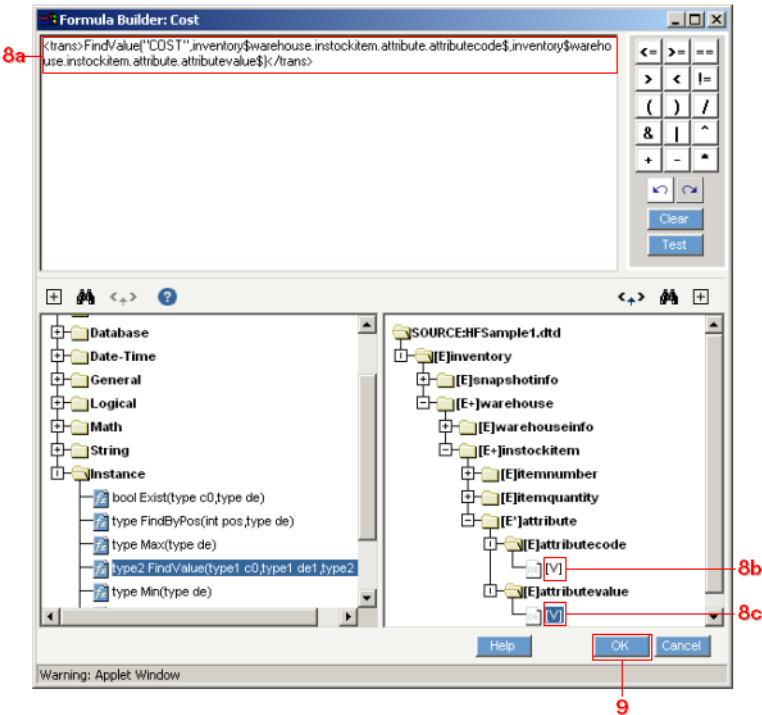

Figure 23-3. Carefully configure the **FindValue()** function's three parameters.
- 9 Compare your expression with Figure 23-3 below, then click **OK** to close the window when you are finished.
- 8 Compare your expression with Figure 23-3 below, then click **OK** to close the window when you are finished.